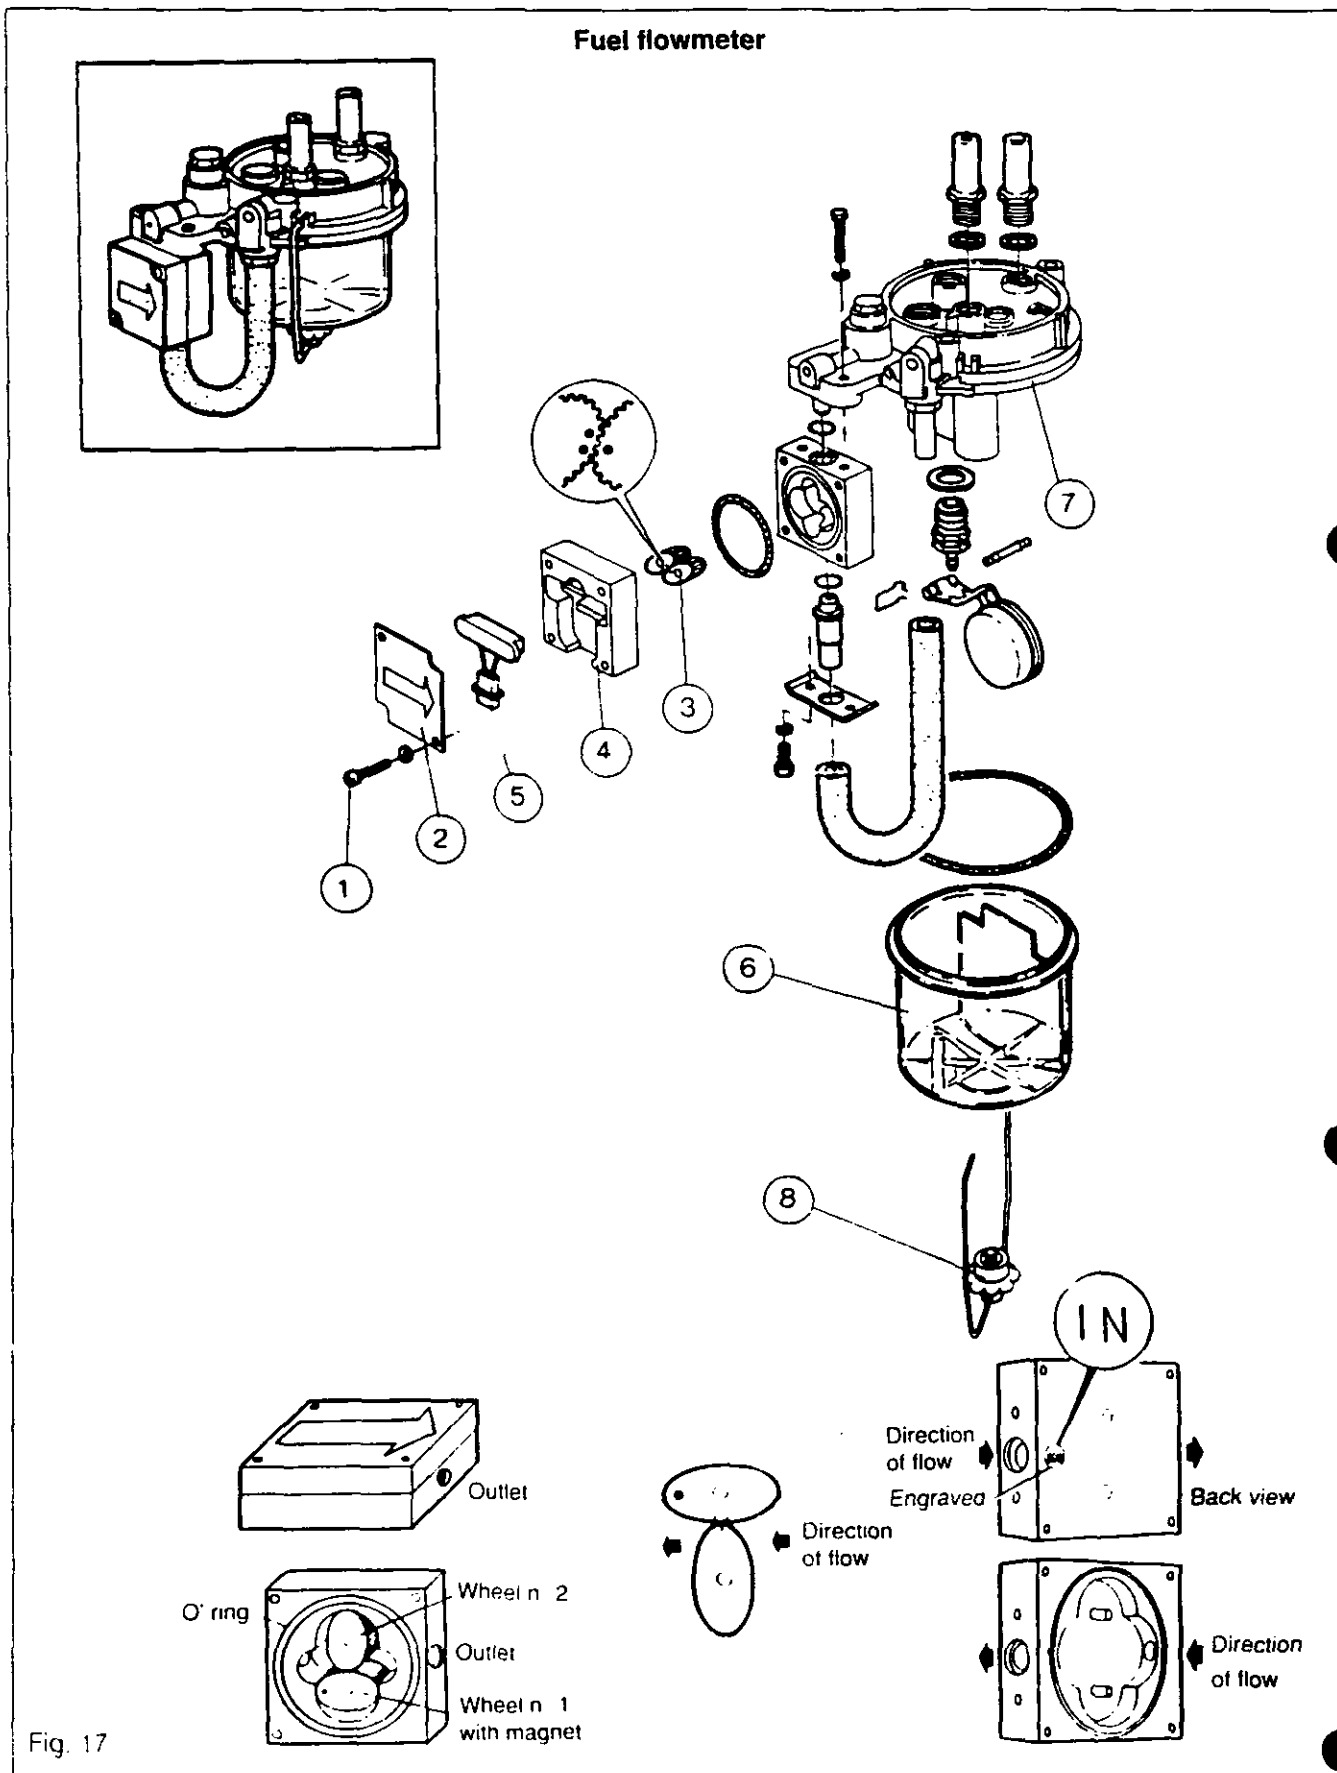

Fig. 17
The mechanical device consists of an aluminium case in which the measurement chamber is machined and two oval wheels moulded from a base of carbon and phenolic resin. It does not contain any packing press or revolving joint. A magnet countersunk in one of the wheels (3) (Fig. 17) opens and closes on each rotation a magnetic contact (5) (Fig. 17) located outside the chamber, thus eliminating any risk of escape or entry of air.
Never clean with compressed air. In principle, the counter does not require any particular maintenance. However should some impurity block it, it is best to observe the following procedure (see Fig. 17).
- Replace the oval wheels **(3)**, taking care to locate the wheel containing the magnet in the correct position, in accordance with the diagram (Fig. 17), since it is essential for the magnet to pass in front of the magnetic contactor **(5)** in order to make it operate.
- Replace in position the lid **(2)** of the case, checking carefully that the arrow is in direction of flow of the fluid and that the wheel containing the magnet is correctly opposite the magnetic contactor. By way of reference mark, the mark «IN» is engraved on the back of the counter, on the input side (see Fig. 17).